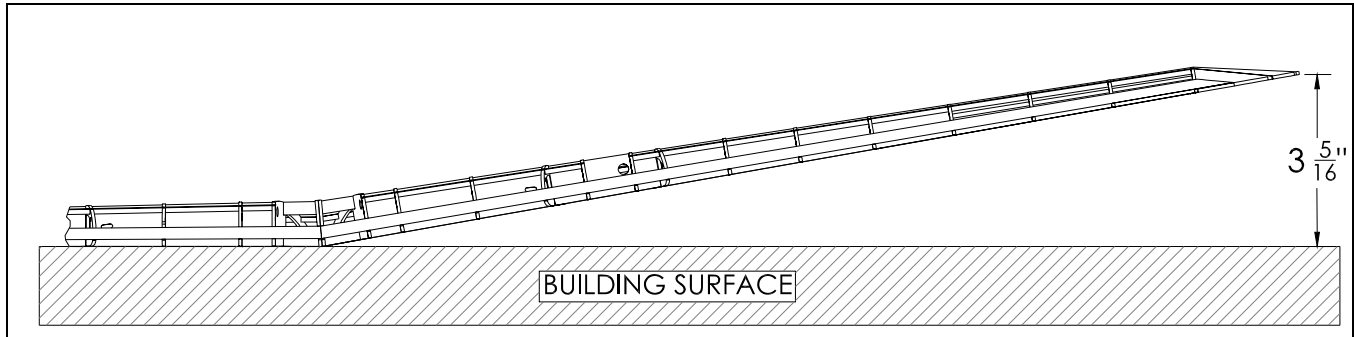

Figure 18
- With one wing half fixed flat to the building surface, glue on the other wing half with the tip elevated to the dimension shown in Figure 18. Join the two wing halves with Epoxy.